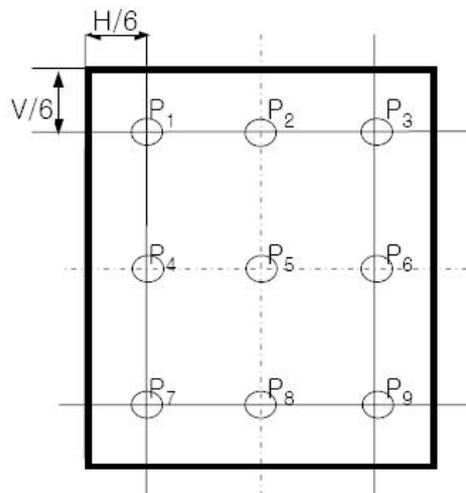

Figure 9: Uniformity Measurement Locations
- Uniformity measurement shall be taken at the locations shown in FIG. 9, for a total of the measurements per display, measure surface luminance of these nine points across the LCD surface 50cm from the surface with all pixels displaying white.